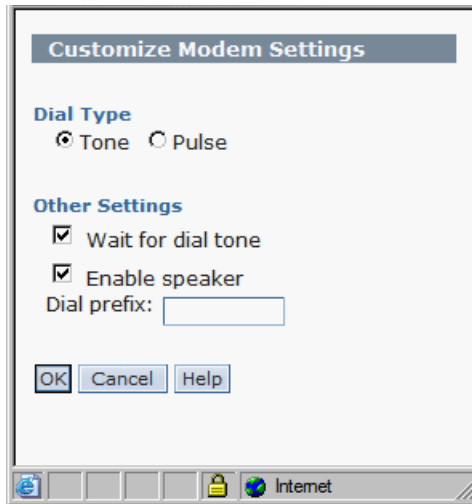

Figure 12-26 Modem configuration
2. Set the modem to tone or pulse dialing and set a dial prefix, if required, as shown in Figure 12-26. Then, select **OK**.